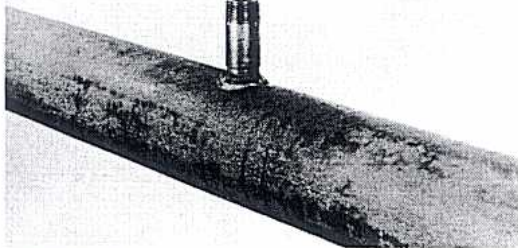

FIGURE 42
- 3a. For nipples having welding inlet. Place nipple in desired location and weld to pipe line. FIGURE 42.